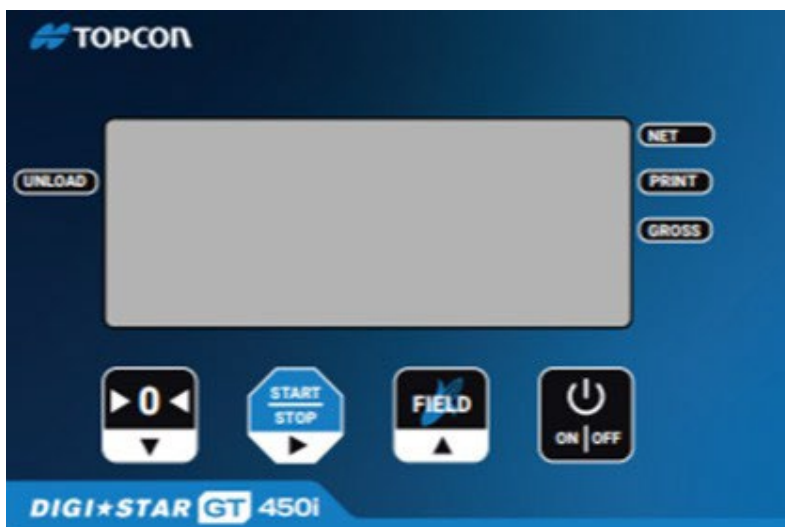

Figure 4-1: Obtain Current Setup Number
3. Press **ON/OFF** again to allow self test to complete normally (Figure 4-1).